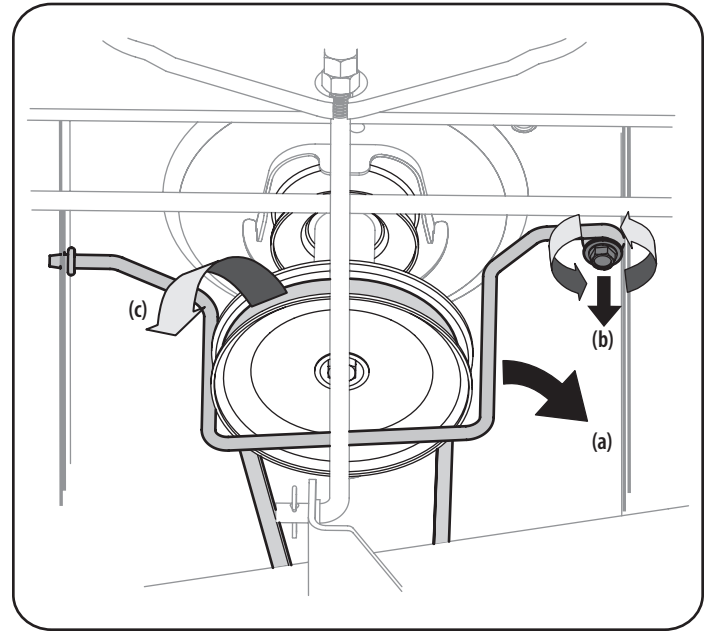

Figure 11
- Remove the belt-keeper rod (a), from around the tractor's engine pulley, by removing the self-tapping screw (b) that secures it. See Figure 11.
- Remove the belt (c) from around the tractor's engine pulley and idler pulley(s). See Figure 11.